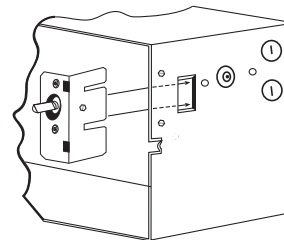

Figure 5
2. Position thermostat above slot in right end of back box. Push tab on thermostat bracket through slot in top, right end of back box until the bracket locks in place. See Figure 5.